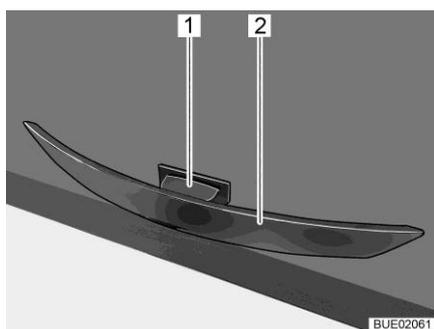

Fig. 84 Handle with release button
- Press the release button (Fig. 84,1) and hold it down.
- Pull the handle (Fig. 84,2) until the furniture flap is open.